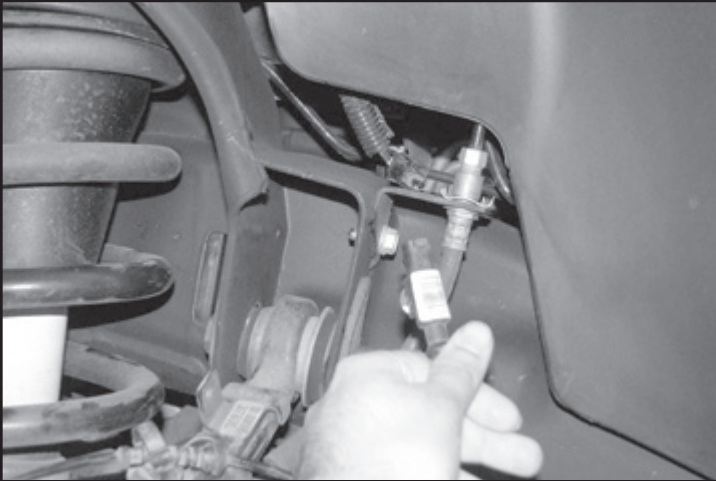

FIGURE 1
3. Follow the wheel speed sensor wire from frame rail plug. Separate the wire from the upper control arm. **SEE FIGURE 1**